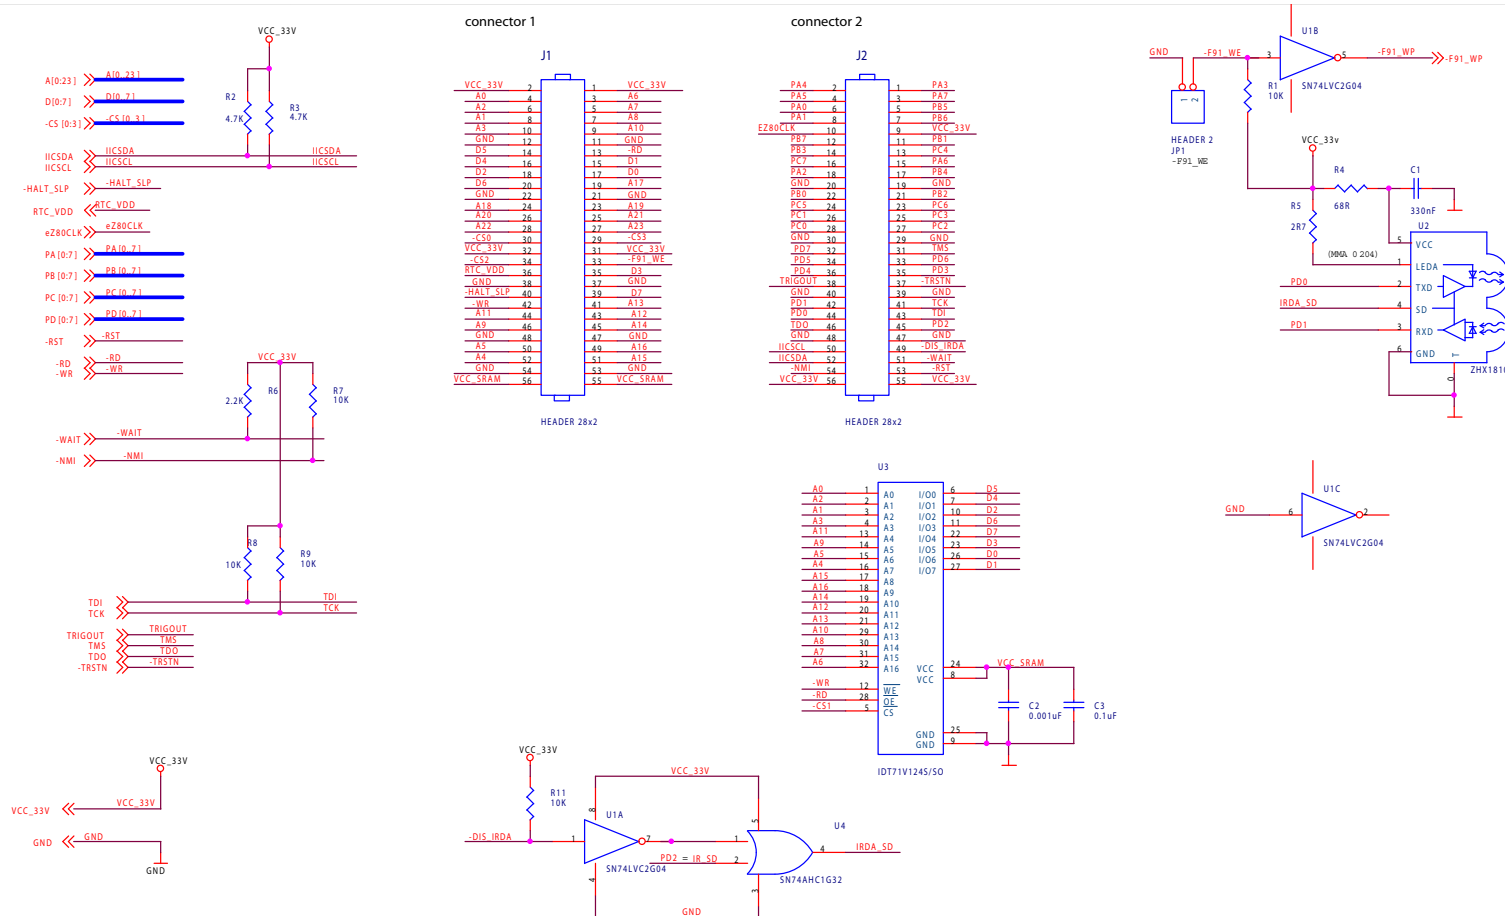

Figure 5. eZ80F91 Mini Enet Module for eZ80AcclaimPlus!TM Schematic Diagram, #1 of 2—Connectors and Miscellaneous
1. For the sake of simplicity in describing the interface, Power and Ground nets are omitted from this table. The entire interface is represented in the eZ80F91 Mini Enet Module schematics (see Figure 5 on page 14 and Figure 6 on page 15).
Figure 5 and Figure 6 display the layout of the eZ80F91 Mini Enet Module for eZ80AcclaimPlus!. IrDA circuitry devices are not installed on the eZ80F91 Mini Enet Module for eZ80AcclaimPlus!. However, these devices appear in the following schematics for reference purposes. Please see “IrDA Transceiver” on page 11 for additional information.